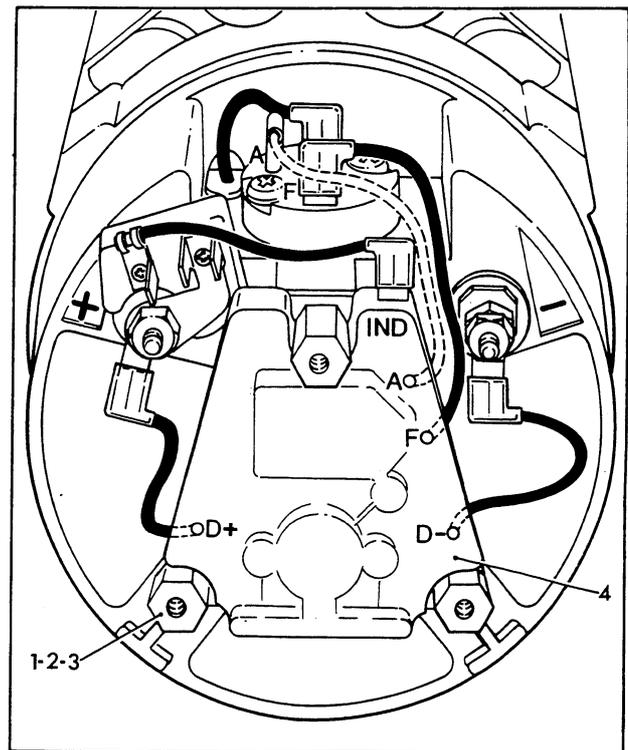

Fig 2 Slip ring end shield and regulator
Loosen and remove pillar (1) Fig 2, spring washer and flat washers (2 & 3). Then withdraw the regulator (4) from the slip ring end shield.